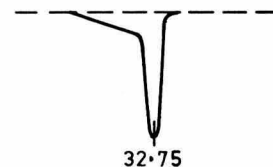

FIG. 13A.
13. With sweep output adjusted to produce 30 volts peak-to-peak output from the video amplifier, connect C. R. O. to noise detector output at the junction of R73 and R74 in anode circuit of V10A (6BL8). Adjust noise take-off coil L5 in video detector assembly for response as in Fig. 13A, using the peak nearest the bottom of the can. The noise detector output should exceed 15 volts peak-to-peak under these conditions.